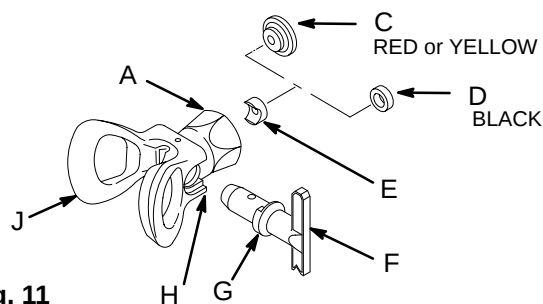
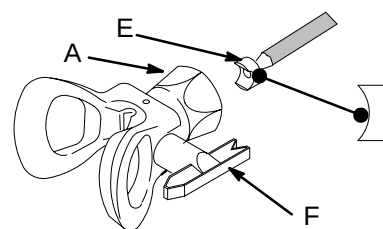

Fig. 11
Fig. 12
Relieve pressure. Install a tip (F) so the flange (G) on the cylinder fits into the slots (H) at the base of the spray tip guard (J). See Fig. 11.
Place the seat (E) on a pencil, curved side out, as shown in Fig. 12. Guide the seat into the retaining nut (A) and turn the seat until it straddles the cylinder of the spray tip (F). Drop in the appropriate gasket and press it down. If using the red or yellow gasket (C), be sure the flat side faces out of the retainer (A). See Fig. 11.
Be sure the spray tip handle is in the FULL SPRAY position before operating the gun. See Fig. 11.